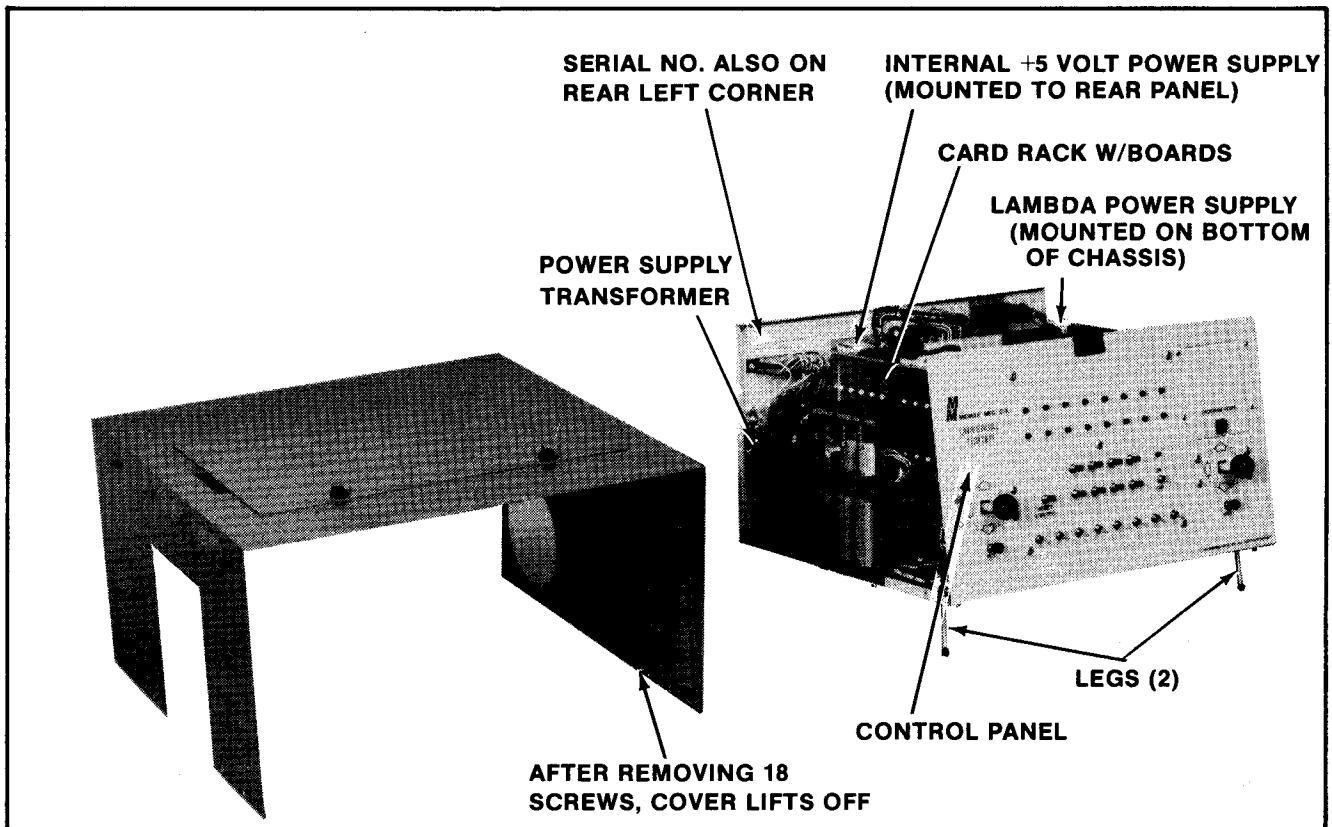

Figure 3-1
3. Install the two short Elevator Legs which raise and tilt the Tester's Front Control Panel toward you, making the Controls easier to see and use. See Figure 3-1.
4. Remove the Tester's Chassis Cover and inspect its inside areas for any signs of damage. See Figure 3-1.
- Make sure all printed circuit boards (P.C.B.'s) are firmly seated in their connectors. See Figure 3-1. These connectors are also keyed. The P.C.B.'s will only go into them one way without being damaged.
- Note the location of the Tester's serial number. See Figure 3-1.
- Check all major subassemblies to be sure they are mounted securely. These are called out in Figure 3-1.